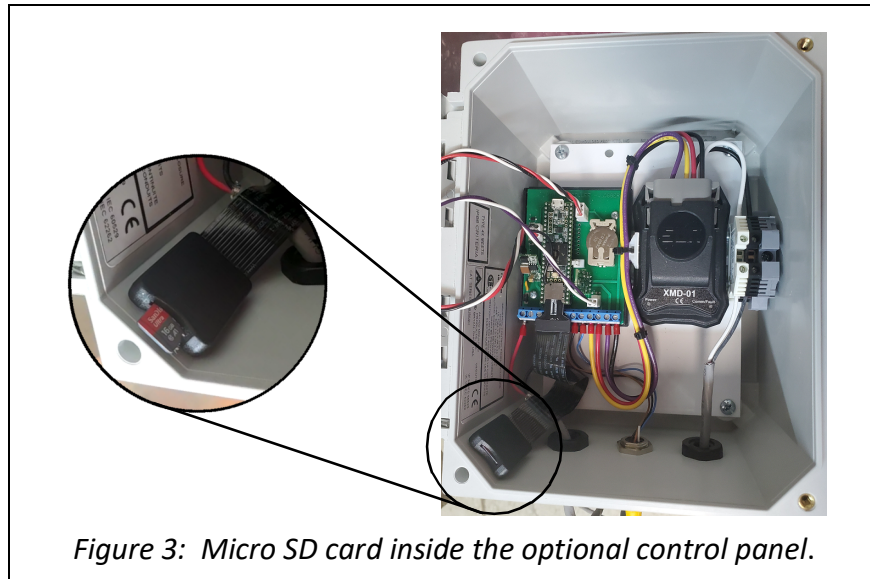

Figure 3: Micro SD card inside the optional control panel.
Turn ON the 12 Vdc power supply and the truck's hydraulic power supply. Operate the controls for the Ranger to turn it on (for operation of the optional control panel, see Figure 3).
The optional control panel is equipped with a micro SD card for data storage (see Figure 3). The card is located inside the control panel. The system records the following data to a “.csv” file, approximately once each second, while the RUN/STOP switch is set to RUN:
3. Locate the micro SD card drive in the bottom left corner of the box as shown in Figure 3.
7. Reinstall the micro SD card into the housing in the control panel. Make sure the card is inserted properly, with the copper contacts facing the back of the housing (see inset of Figure 3). Gently push the card in until you feel a click.